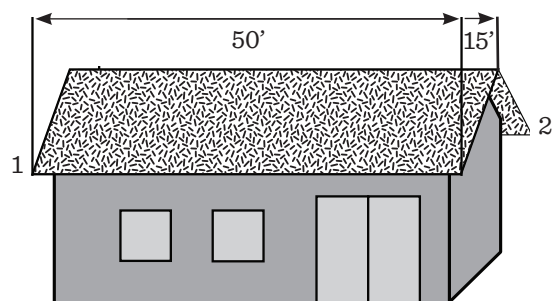

Figure 8. Calculating roof runoff potential for a residential site
- Using the aerial photo as a guide, trace or draw a "birds-eye-view" sketch of your site to-scale showing lot dimensions and key roof dimensions (Figure 8). Using graph paper can make drawing to scale easier.
To calculate runoff to potential tank locations, first you need the square footage of various roofs at the site. These can be obtained from the City IQ Online Map Viewer, where aerial photos of your site are available, and where line and area calculations can be made. See www.cob.org/cityiq/website/index.html Using these measurements you will calculate catchment areas. Figure 8 shows a simple example, and the estimated volume of roof runoff for Bellingham's average rainfall.
1. Use the aerial photo of your site, or a tape measure, to measure the length and width of the roof areas from which you may want to collect water. The example site shown in Figure 8 has a house and separate shed whose roofs could serve as rainwater harvesting catchment surfaces. Calculations of catchment sizes and potential harvested rainwater are shown in Figure 8.